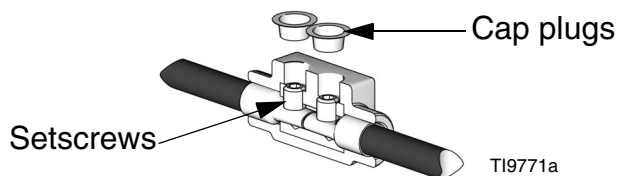

FIG. 6: Re-torque and Install
When torqued to 60 in-lbs (6.78 N•m) setscrews will be approximately flush with connector. See FIG. 6.
- f. Insert cap plugs (3) over setscrews (2). See FIG. 6.